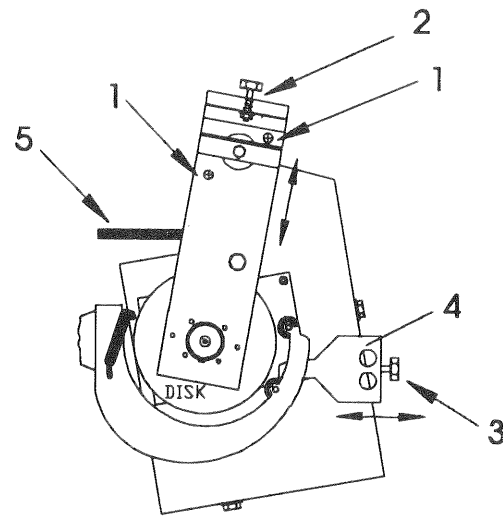

Fig. 31
- Adjustment by bending the end of the stopper bracket (Fig. 31, Pos. 4).
- Centre with screws of butt strap on connecting rod through the excess holes of player chassis (Fig. 31, Pos. 5).
- For left/right adjustment turn the screw on the griper stop bracket (Fig. 31, Pos. 1).
- For front/back adjustment loosen first the 2 screws at the pressure arm (hinge point, Fig. 31, Pos. 2) and adjust with hex screw at the back of the player chassis (Fig. 31, Pos. 3).